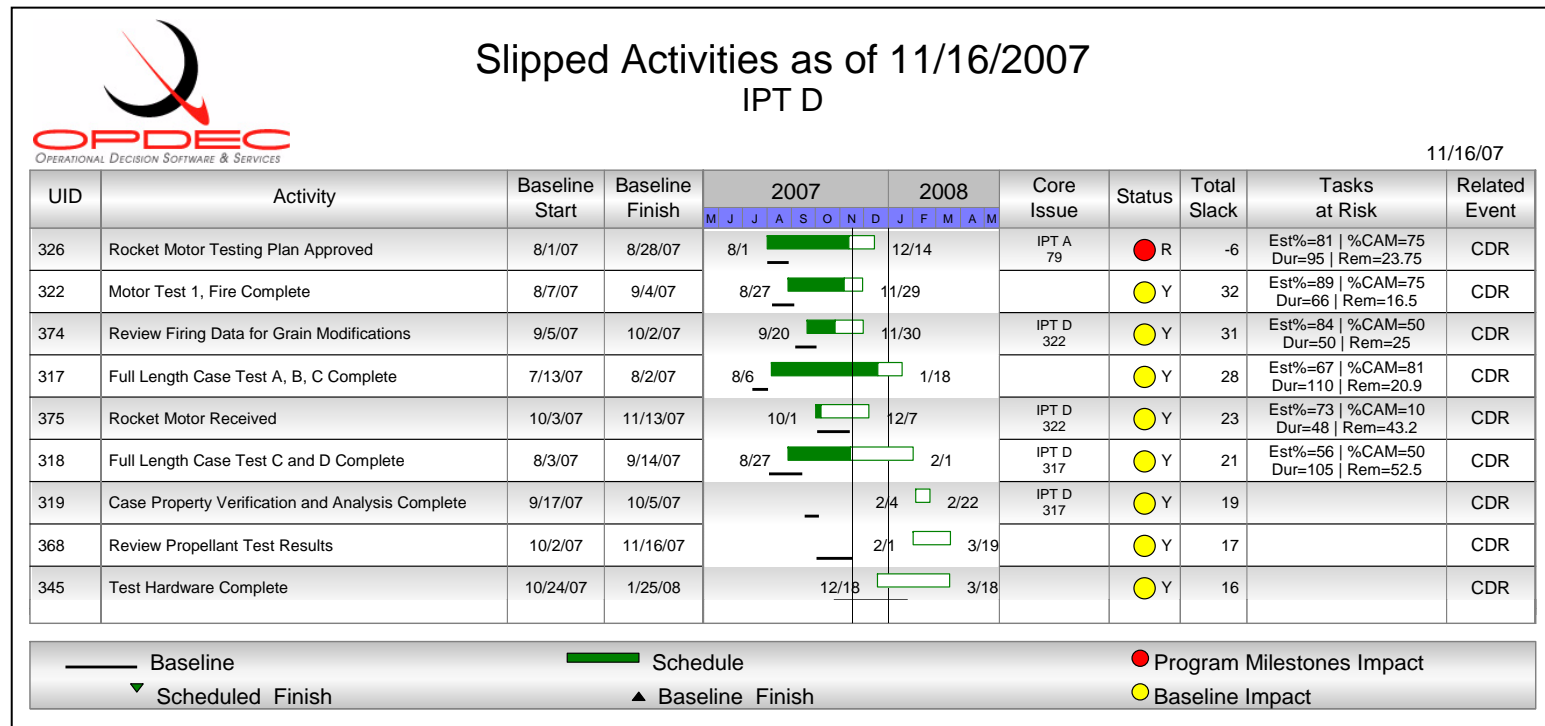

Figure 14
Slipped Activities are defined as those activities that have exceeded the planned date and may cause a delay in another activity in meeting its milestone date. Using the default Milestone Professional template ‘Slipped Activities.mtp’, the following report example was created (Figure 14).
- **Tasks at Risk:** This column indicates is the activity is considered at risk. In the example above (Figure 14) UDI 7631 is at risk because it's estimated % complete is 82 while the specified CAM % complete is only 80. Now this may not seem like a large enough variance to warrant the task at risk, but for this report our variance threshold was set to zero (see **Tasks at Risk Threshold** from the settings section). If we were to allow a variance threshold of +-5, then this activity would not have shown at risk. The Task at Risk column also shows what the duration of the task is compared to the duration remaining.